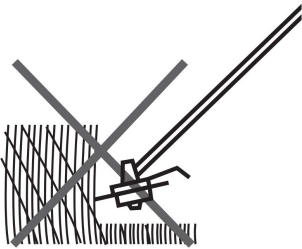
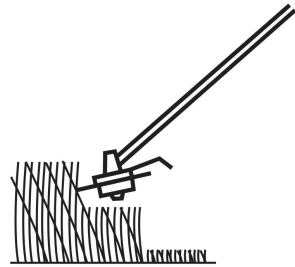

Fig. 46
Fig. 47
7. Trim longer grass in stages; do not cut long grass in one cut (Fig. 46). For the best results, cut longer grass in steps (Fig. 47).